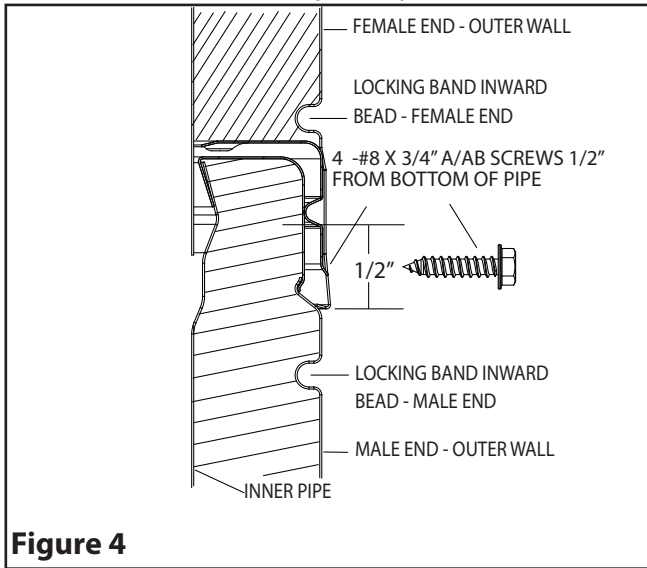

Figure 4
As an alternate to the Locking Band, you can secure the joint with four (4) - #8 x 3/4" A/AB stainless steel screws (not supplied) Pre-drill if necessary. Must be evenly spaced, 1/2" from the end of the pipe. See **Figure 4**, showing Securing Diagram (Close up, Cross-Section of Chimney Joint).
NOTE: If a joint is to be located within the Attic Insulation Shield, you will need to substitute the Locking Band with 4 sheet metal screws instead (refer to Figure 4).